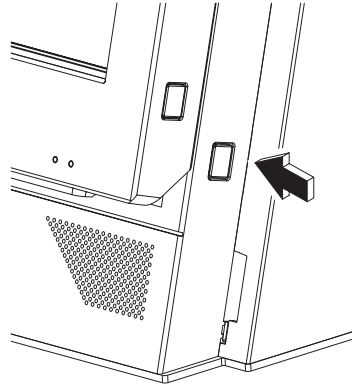

Figure 7. Unlatching front cover/HDD cover
3. Press inward on each side of the front cover/HDD cover (see Figure 7), and pull the front cover/HDD cover slightly forward.